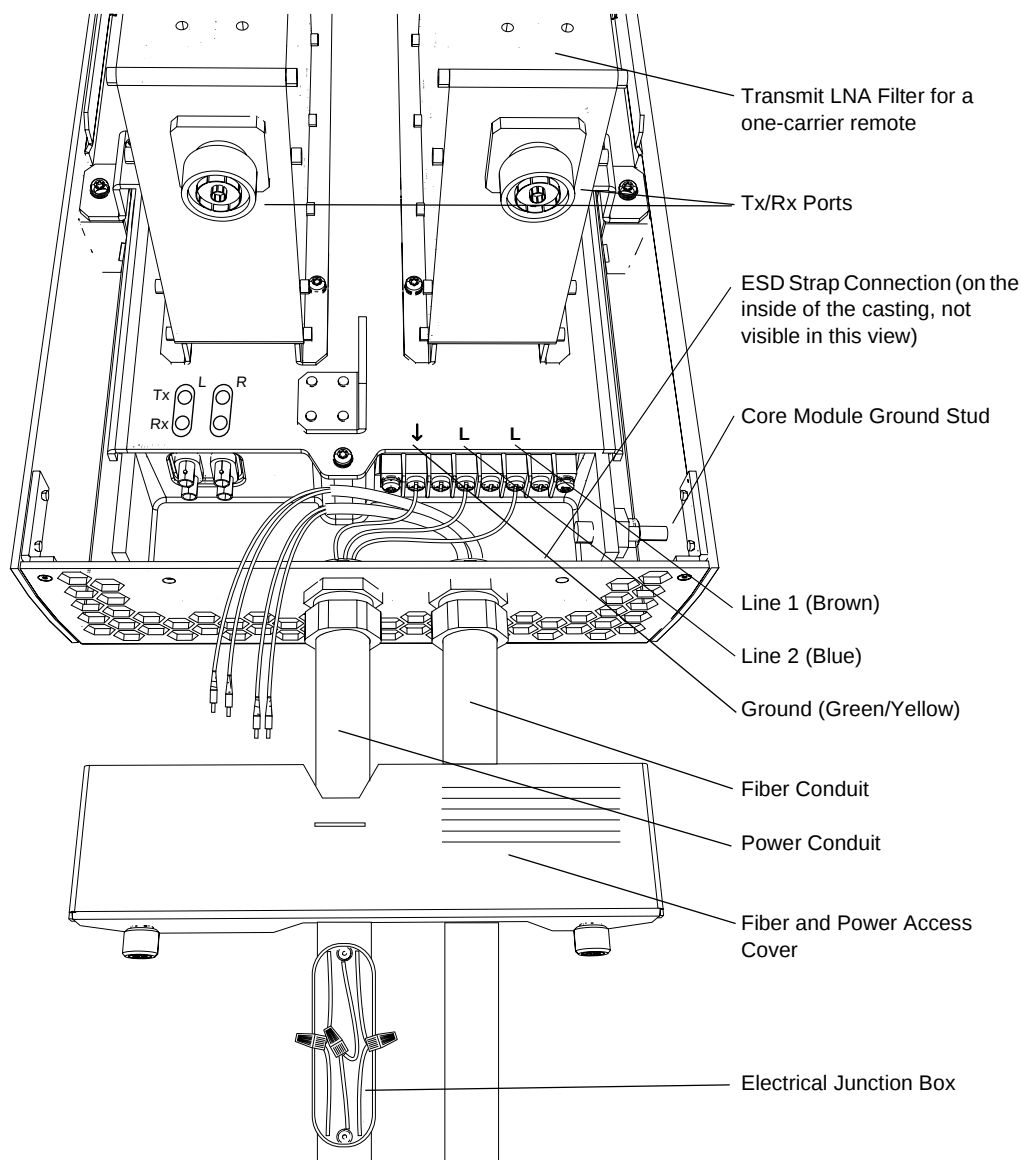

Figure 3–4 Connecting the Ground Cable and RF Jumpers
- Connect the ground jumper to the core module ground stud shown in Figure 3–4 (35–40 in-lbs (400–450 N-cm) maximum torque recommended).
The remote unit core module comes with “pigtails” connected to the power connectors. The pigtails must be pulled through the power conduit to the electrical junction box where they will be connected to the power cable from the UPS or electrical breaker. For the correct power designations see, Figure 3–4 on page 3-7.